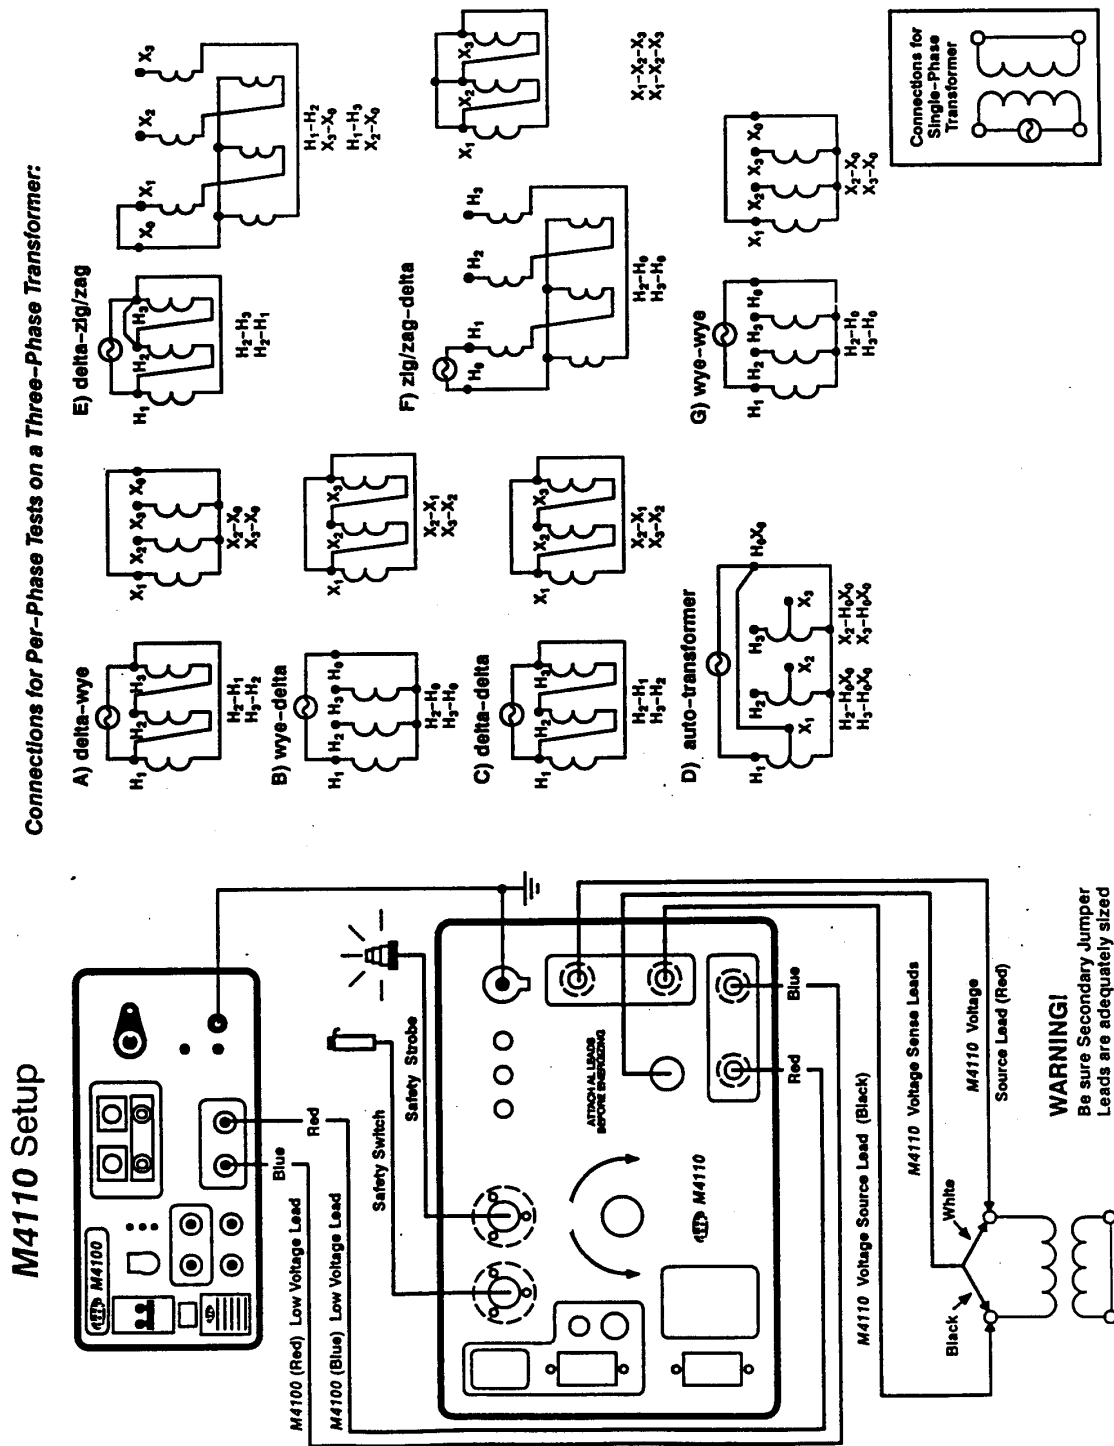
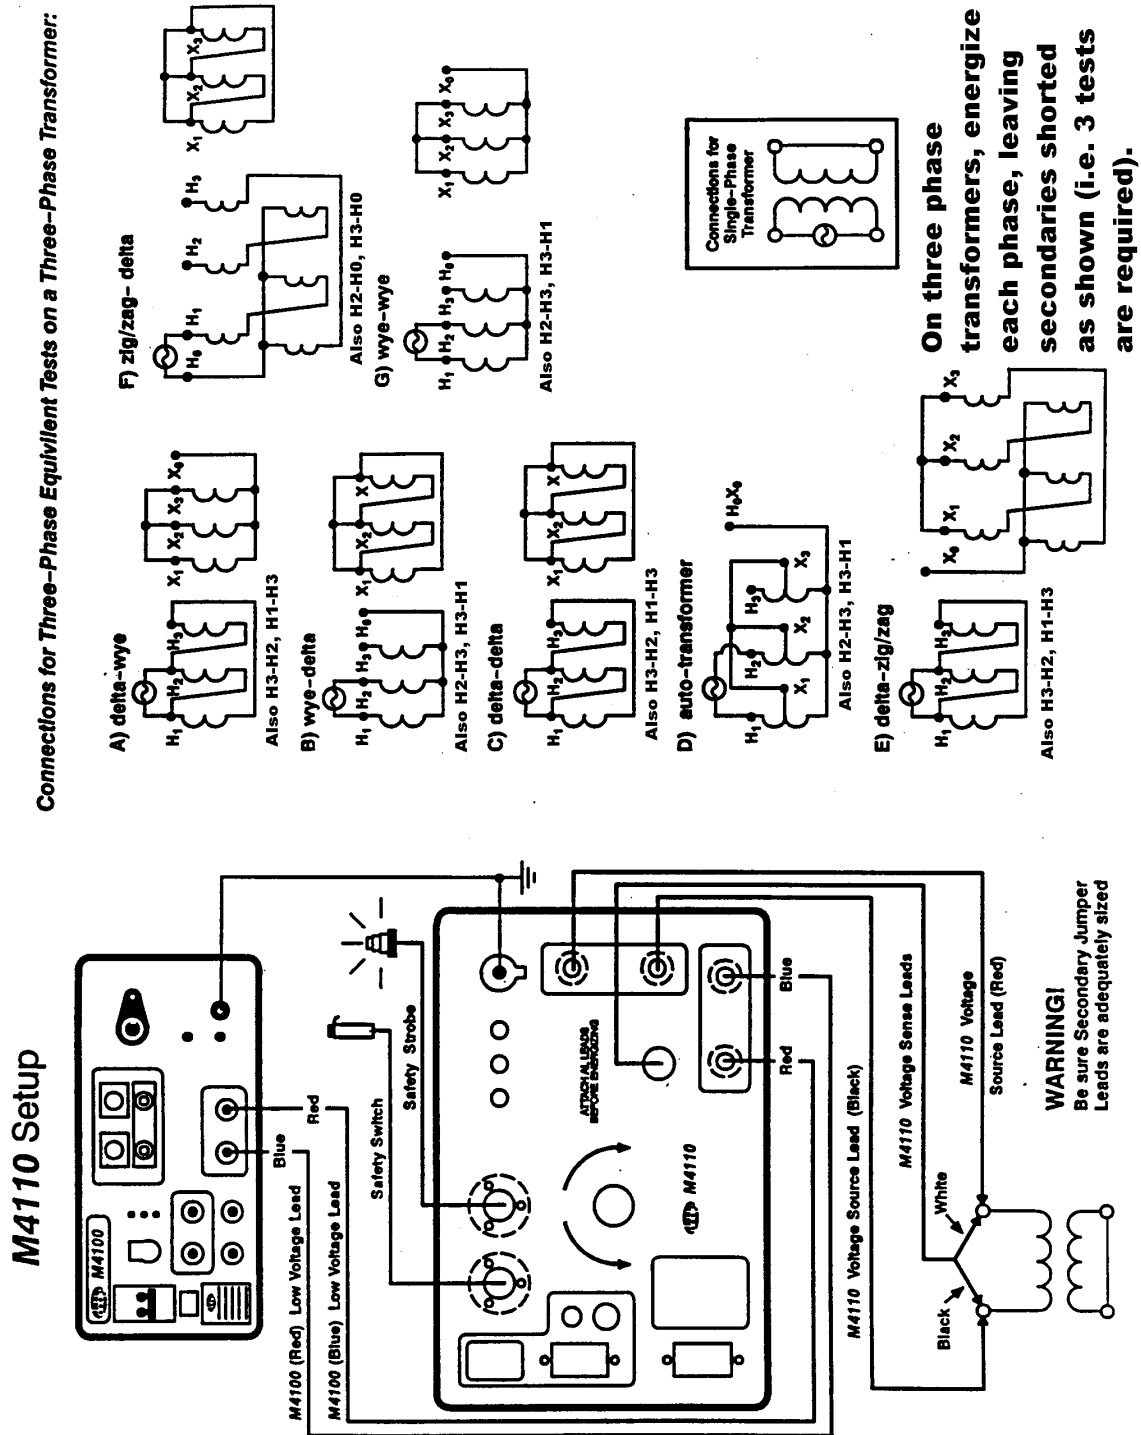
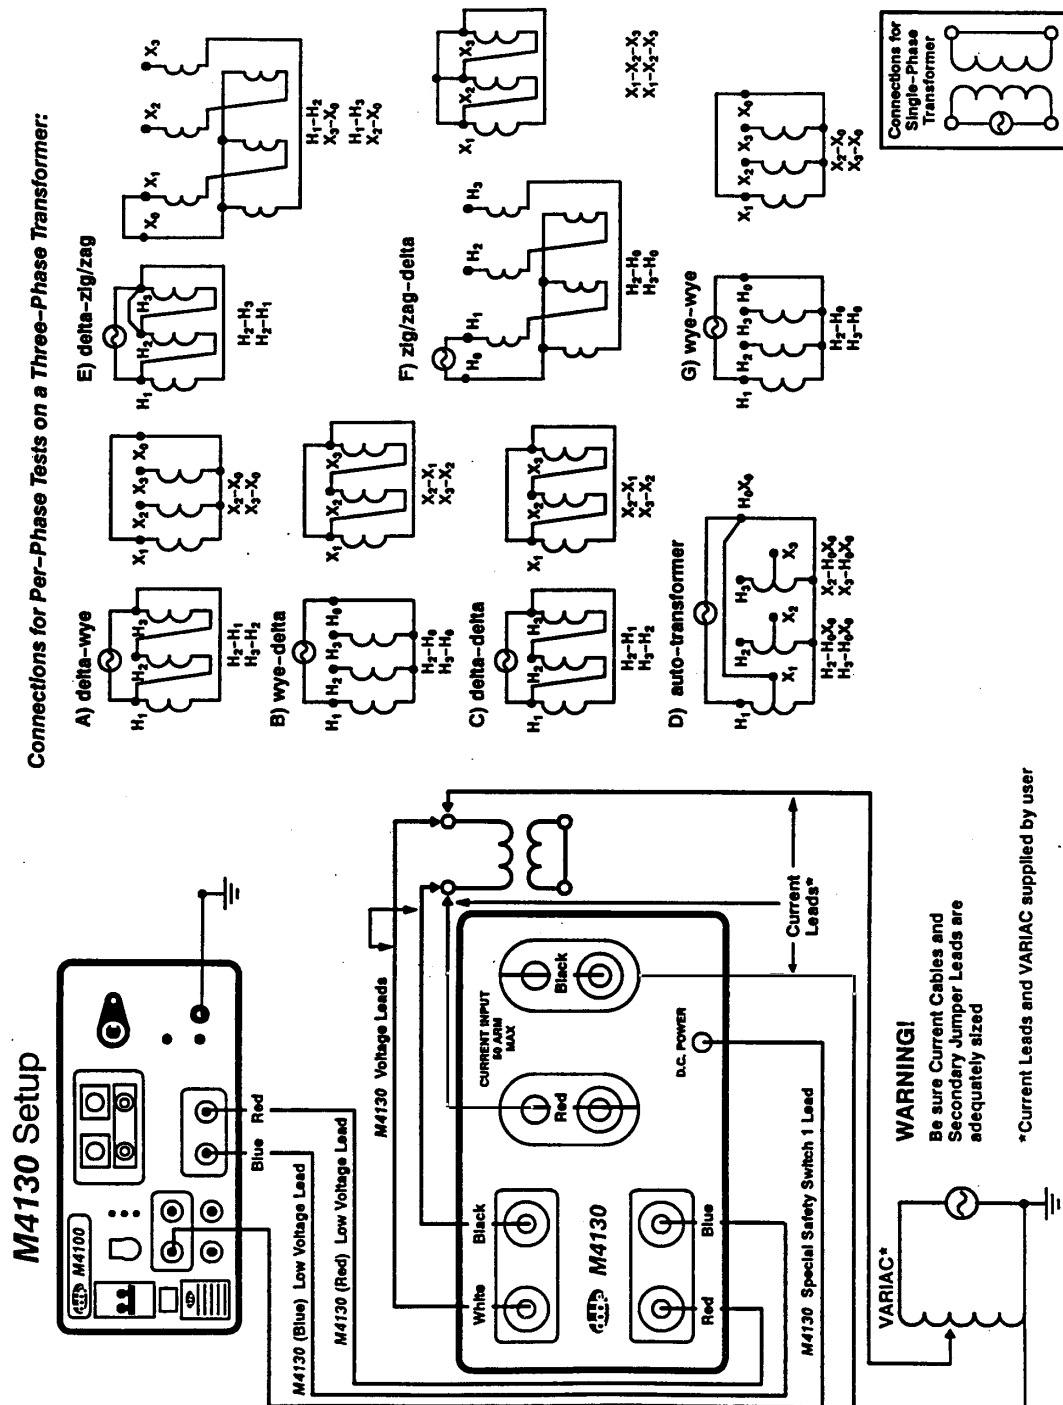
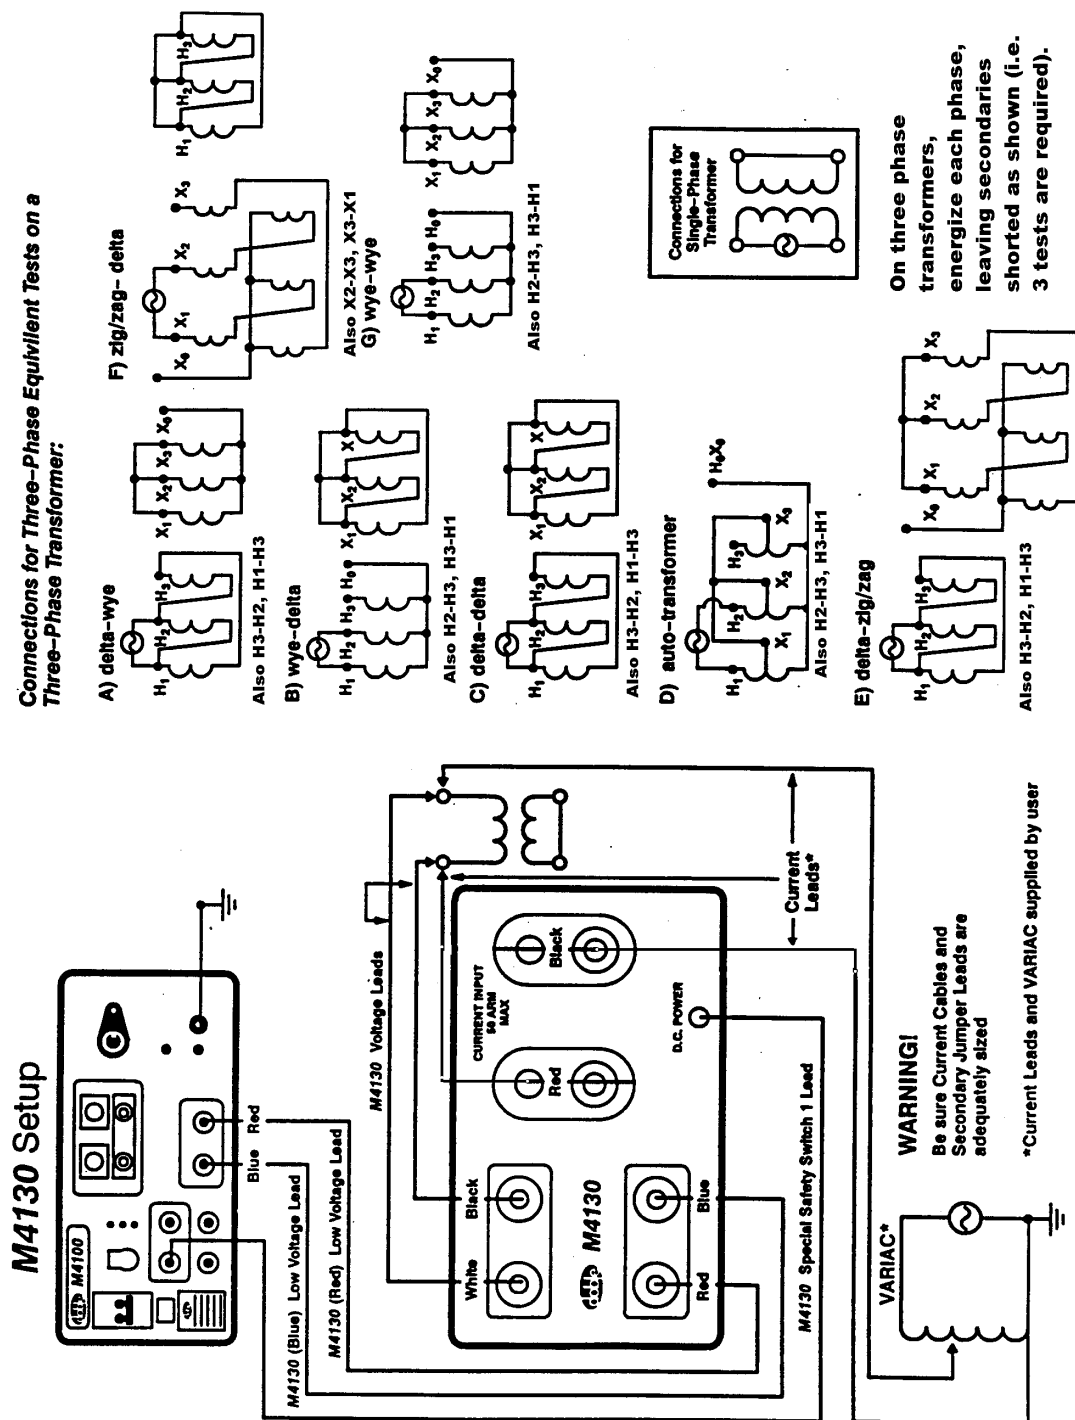

Figure 3.3 M4110 Setup (a)
Figure 3.4 M4110 Setup (b)
Figure 3.5 M4130 Setup (a)
Figure 3.6 M4130 Setup (b)
On a new or rebuilt three-phase transformer or during the initial test on a used transformer, a three-phase equivalent test and per-phase tests should be performed. This allows comparison with the nameplate value (the three phase equivalent test), between the phases (per-phase tests) and provides a benchmark for future tests (per-phase tests). On a single-phase unit, only one test can be performed (Figure 3.3 M4110 Setup (a)). For comparison, tests should be performed on the same LTC positions as the nameplate values.
Test connections for use with the M4110 are shown in Figure 3.3 M4110 Setup (a) and Figure 3.4 M4110 Setup (b). Test connections for use with the M4130 are shown in Figure 3.5 M4130 Setup (a) and Figure 3.6 M4130 Setup (b).
One test is performed on each phase, by connecting the voltage source and sense leads from the Leakage Reactance Interface to each pair of line terminals. All three line terminals on the opposite winding are connected together with jumpers, as shown on Figure 3.4 M4110 Setup (b) (if using the M4110), and Figure 3.6 M4130 Setup (b) (if using the M4130).
One test is performed on each phase, by connecting the voltage (source and sense) leads from the Leakage Reactance Interface to a line and the neutral terminals on wye and zig/zag windings or to a pair of line terminals on a delta winding. The terminals on the opposite winding should be short-circuited, as shown in Figure 3.3 M4110 Setup (a) (if using the M4110), and Figure 3.5 M4130 Setup (a) (if using the M4130).
The test connections for a single-phase unit are shown in Figure 3.3 M4110 Setup (a) or Figure 3.4 M4110 Setup (b) (if using the M4110), and Figure 3.5 M4130 Setup (a) or Figure 3.6 M4130 Setup (b) (if using the M4130).
Use Figure 3.3 M4110 Setup (a), Figure 3.4 M4110 Setup (b), Figure 3.5 M4130 Setup (a), and Figure 3.6 M4130 Setup (b) to select the connection that applies to your transformer winding configuration.
5. Jumper together the two terminals of the opposite winding (see Figure 3.3 M4110 Setup (a) or Figure 3.4 M4110 Setup (b)).
3. Connect the three sections of user-supplied current leads so as to complete a circuit from the user-supplied variac, across the winding to be energized, through the M4130 Leakage Reactance Module, and back to the variac (see Figure 3.5 M4130 Setup (a)).
4. Connect the black and white leads from one end of the voltage cable across the same winding as the current leads, and the leads from the other end to the M4130 Leakage Reactance Module Voltage Input Terminals, observing the color coding of the leads. **THE CURRENT AND VOLTAGE CABLES CONNECTED TO THE BLACK TERMINALS ON THE M4130 MUST BE CONNECTED TO THE SAME TRANSFORMER BUSHING, AND THE CURRENT CABLE CONNECTED TO THE RED M4130 TERMINAL MUST BE CONNECTED TO THE SAME BUSHING AS THE VOLTAGE CABLE CONNECTED TO THE WHITE M4130 TERMINAL** (See Figure 3.5 M4130 Setup (a) or Figure 3.6 M4130 Setup (b)).
5. Jumper together the two terminals of the opposite winding (see Figure 3.5 M4130 Setup (a) or Figure 3.6 M4130 Setup (b)).
5. **If performing a Per-Phase test**, jumper only the phase of the opposite winding corresponding to the phase under test, as determined by the winding vector diagram on the transformer nameplate, except in the case of a zig-zag winding (see Figure 3.3 M4110 Setup (a)). **If performing a Three-Phase Equivalent Test**, jumper all three line terminals of the opposite winding.
6. **If performing a Per-Phase test**, jumper only the phase of the opposite winding corresponding to the phase under test, as determined by the winding vector diagram on the transformer nameplate, except in the case of a zig-zag winding (see Figure 3.5 M4130 Setup (a)). **If performing a Three-Phase Equivalent test**, jumper all three line terminals of the opposite winding.